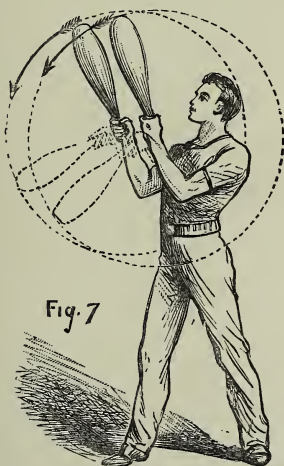

Fig. 7
This combination (Fig. 7) consists of a ladder-plank (A), two standing-planks (D D), and standing-ladder (B), all fourteen feet in length, which form the four supports to carry the cross-beam (E), ten feet long, to which may be suspended
Exercise 5 (Fig. 7).—This is the first of the wrist ‘twists,’ and is a movement that will tax the power of the fore-arm rather severely. Start from the position shown in Fig. 2, and describe a circle with each club *from the wrist* in the direction